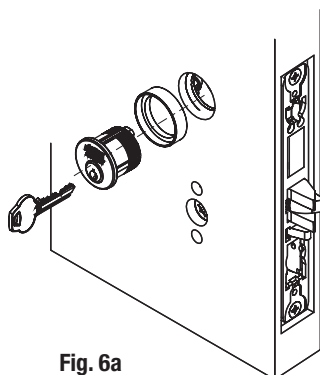

Fig. 6a
- Slide cylinder through collar. Thread cylinder into lock body (Fig. 6a).